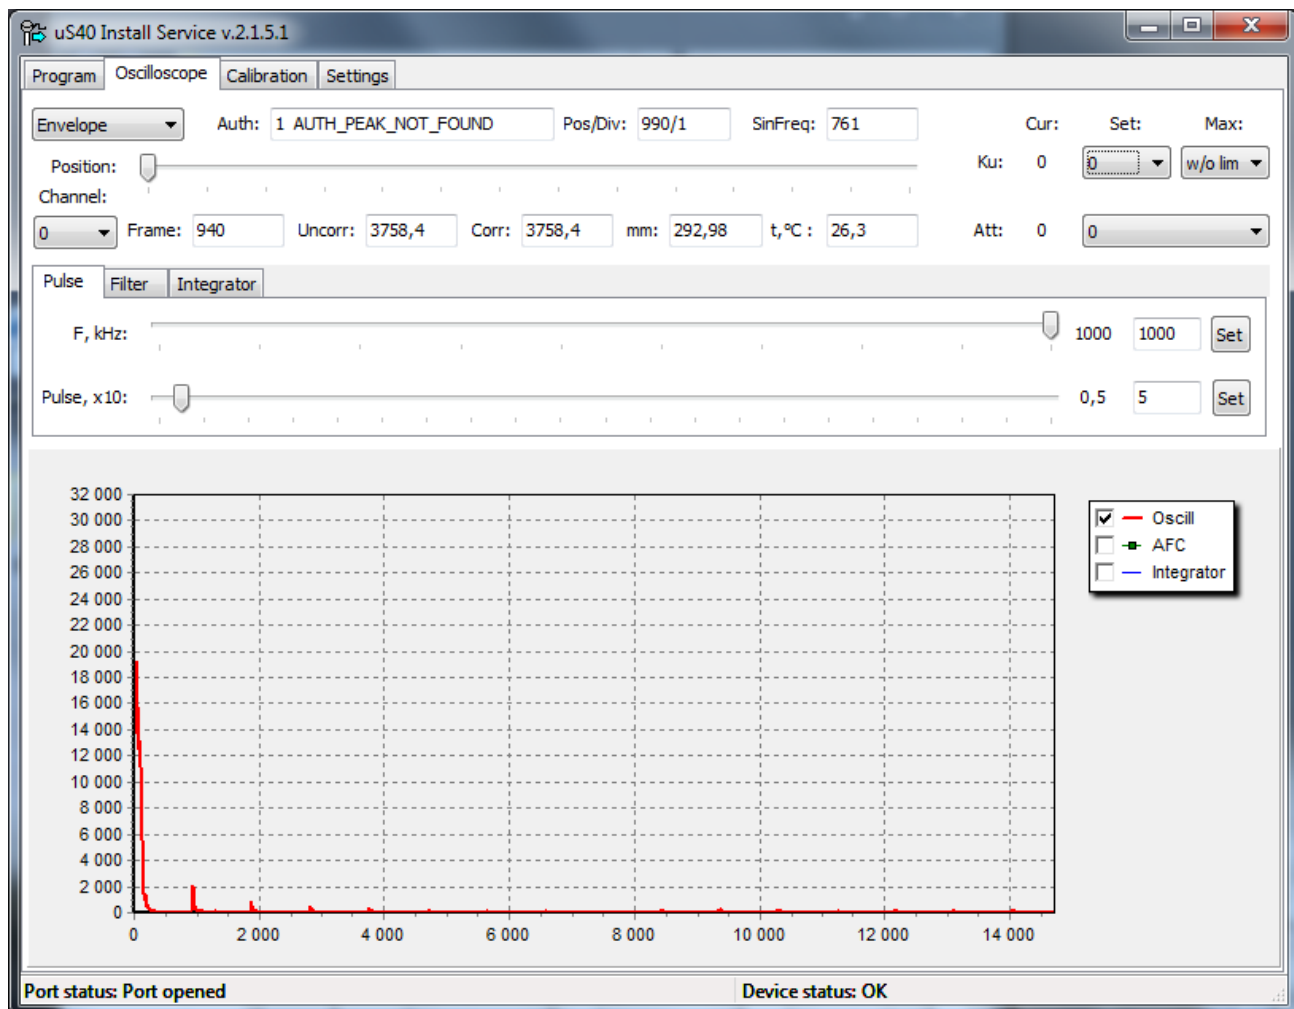
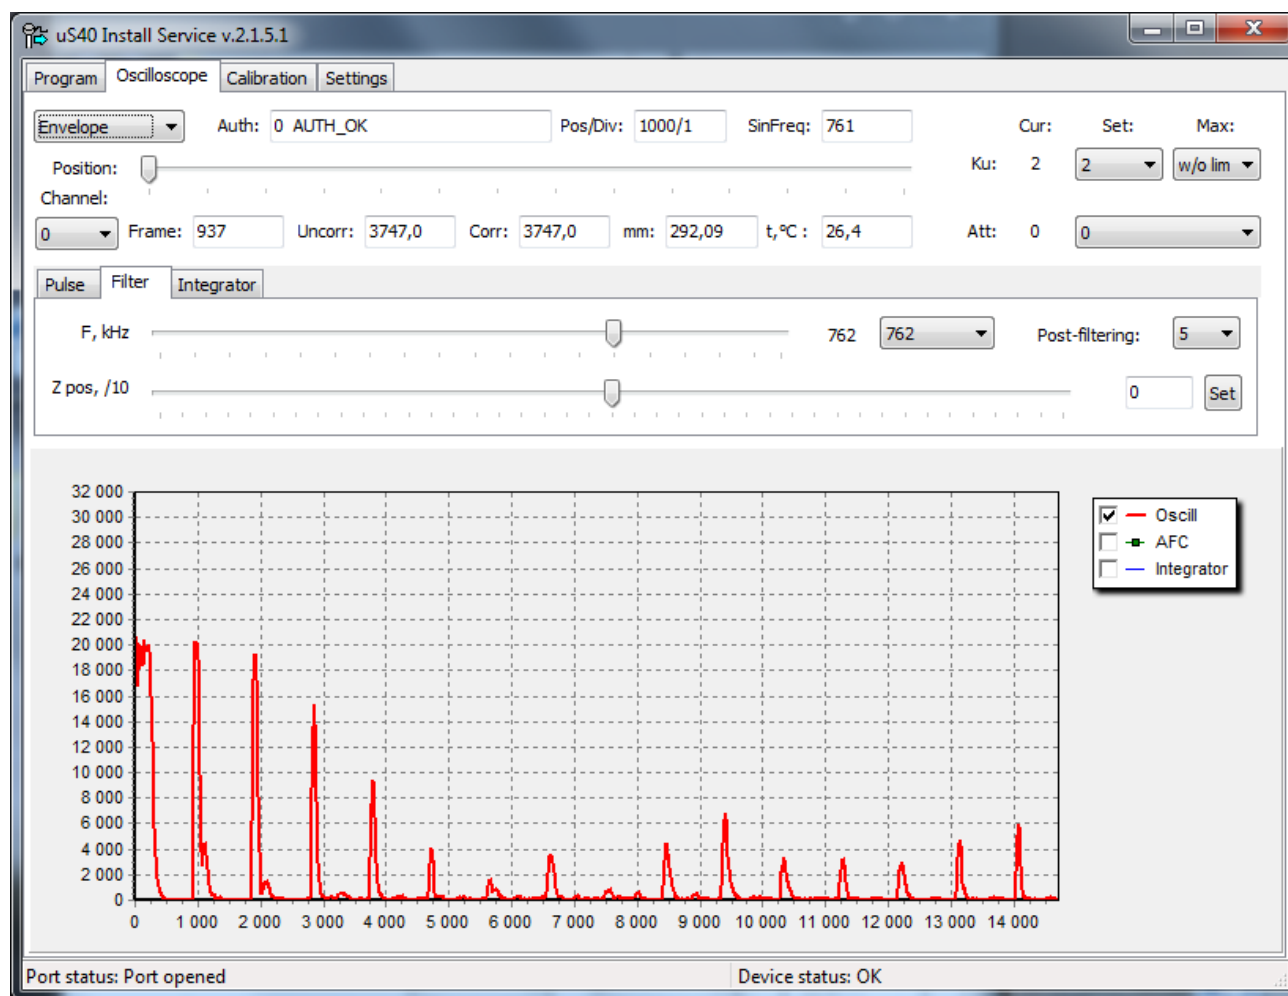
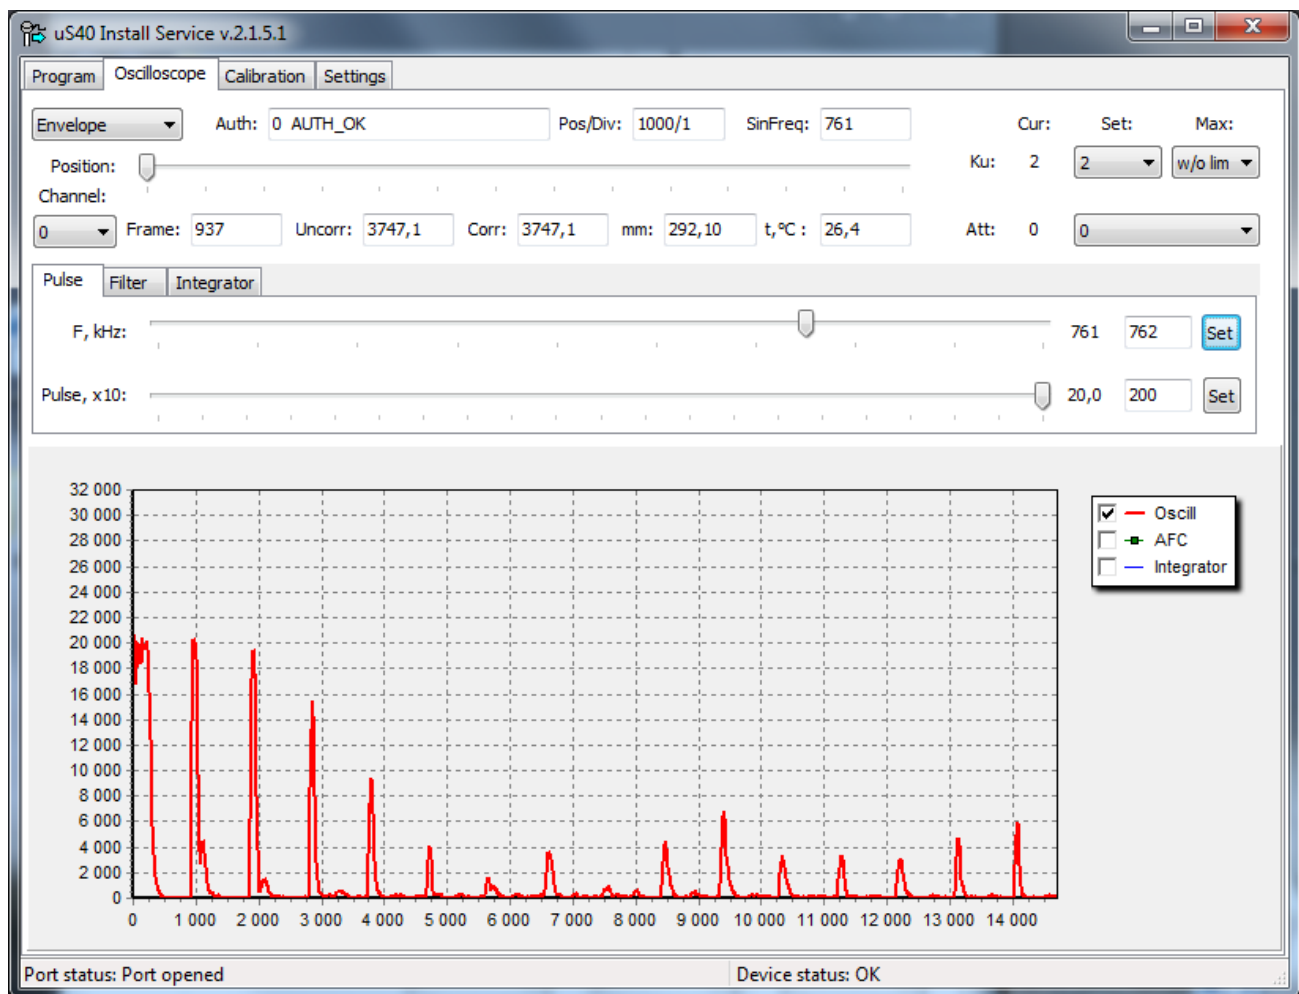

Fig. A.12
Fig. A.17
Fig. A.19
b) On the "Pulse" tab, in the "F, kHz" field, enter the value **1000**. Press the "Set" button. In the field "Imp, x10:" enter the value **5**. Press the "Set" button. Check the change of the entered values in the position to the left of the input field (Fig. A.12):
g) Go to the “Filter” tab (Fig. A.17), in the “F, kHz” field, select the closest value to the operating frequency in the drop-down menu. In the display mode of the oscillograph record, select "Envelope" (Fig. A.12). The parameter "Post-filtering" - select **5**; if the value in the "Uncorr" field is unstable, increase the post-filtering parameter.
- In the drop-down menu "Channel:" select channel 1 (Fig. A.19). In the drop-down menu for displaying the oscillograph record, select the "Envelope" mode (Fig. A.12).